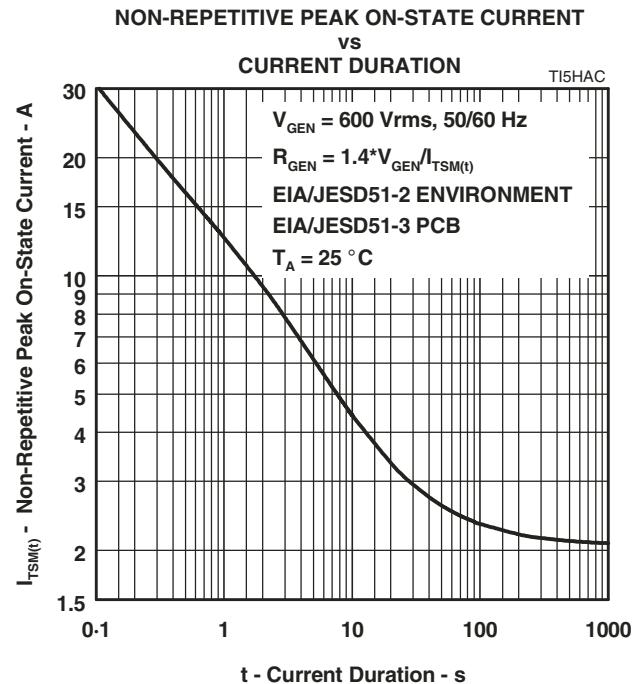

Figure 8.
5. EIA/JESD51-2 environment and EIA/JESD51-3 PCB with standard footprint dimensions connected with 5 A rated printed wiring track widths. Derate current values at  $-0.61\%/\text{ }^\circ\text{C}$  for ambient temperatures above  $25^\circ\text{C}$ . See Figure 8 for current ratings at other durations.
The protector can withstand currents applied for times not exceeding those shown in Figure 8. Currents that exceed these times must be terminated or reduced to avoid protector failure. Fuses, PTC (Positive Temperature Coefficient) resistors and fusible resistors are overcurrent protection devices which can be used to reduce the current flow. Protective fuses may range from a few hundred milliamperes to one ampere. In some cases it may be necessary to add some extra series resistance to prevent the fuse opening during impulse testing. The current versus time characteristic of the overcurrent protector must be below the line shown in Figure 8. In some cases there may be a further time limit imposed by the test standard (e.g. UL 1459 wiring simulator failure).